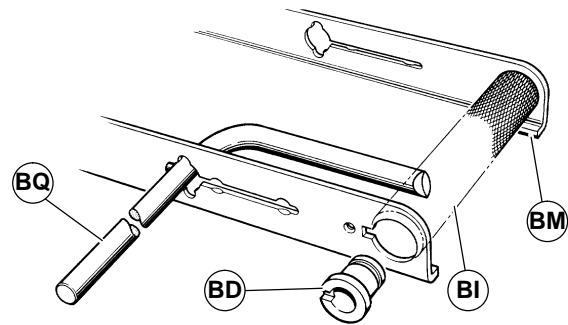

Figure 48
2. Insert pulley installation tool (BQ of Figure 48) (25-07, part of tool kit 4500) into conveyor frame.